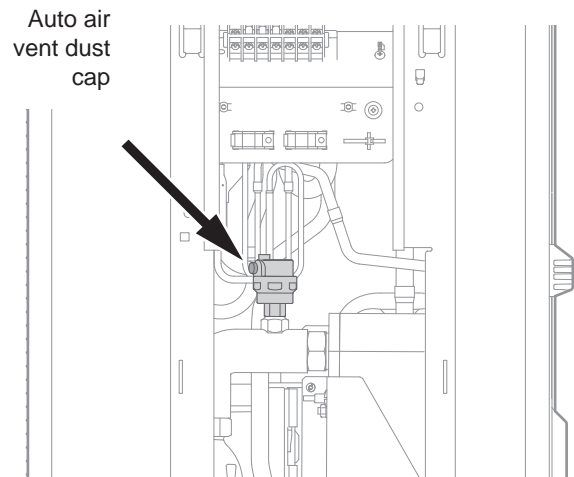

Figure 41. Auto Air Vent Dust Cap
2. Open automatic air vent dust cap. Refer to *Figure 41*.